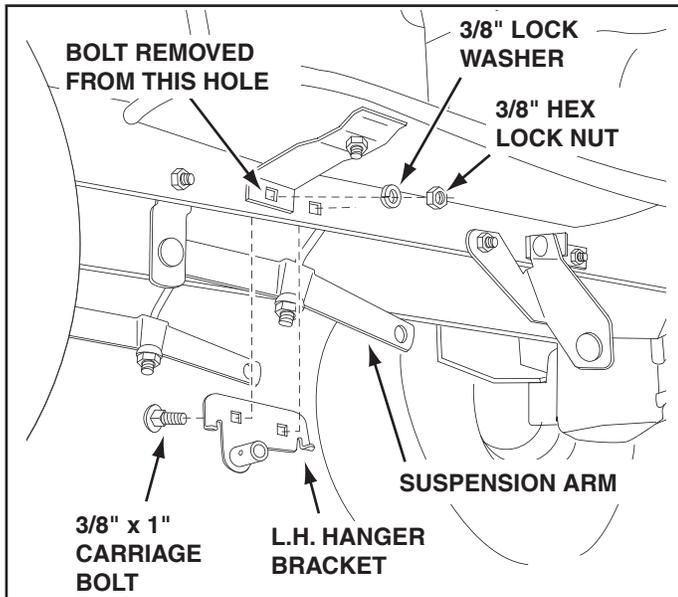

FIGURE 7 LEFT SIDE VIEW
### On Tractors With Foot Rest Brackets (Figure 7)
1. Remove the bolt and nut that fasten the L.H. and R.H. foot rest brackets to the frame. See figure 7.
2. Attach the L.H. Hanger Bracket (marked "L") to the inside of the tractor frame using two 3/8" x 1" carriage bolts, 3/8" lock washers and 3/8" hex lock nuts. The bolt heads go on the inside of the tractor frame. Repeat for the R.H. side. See figure 7.